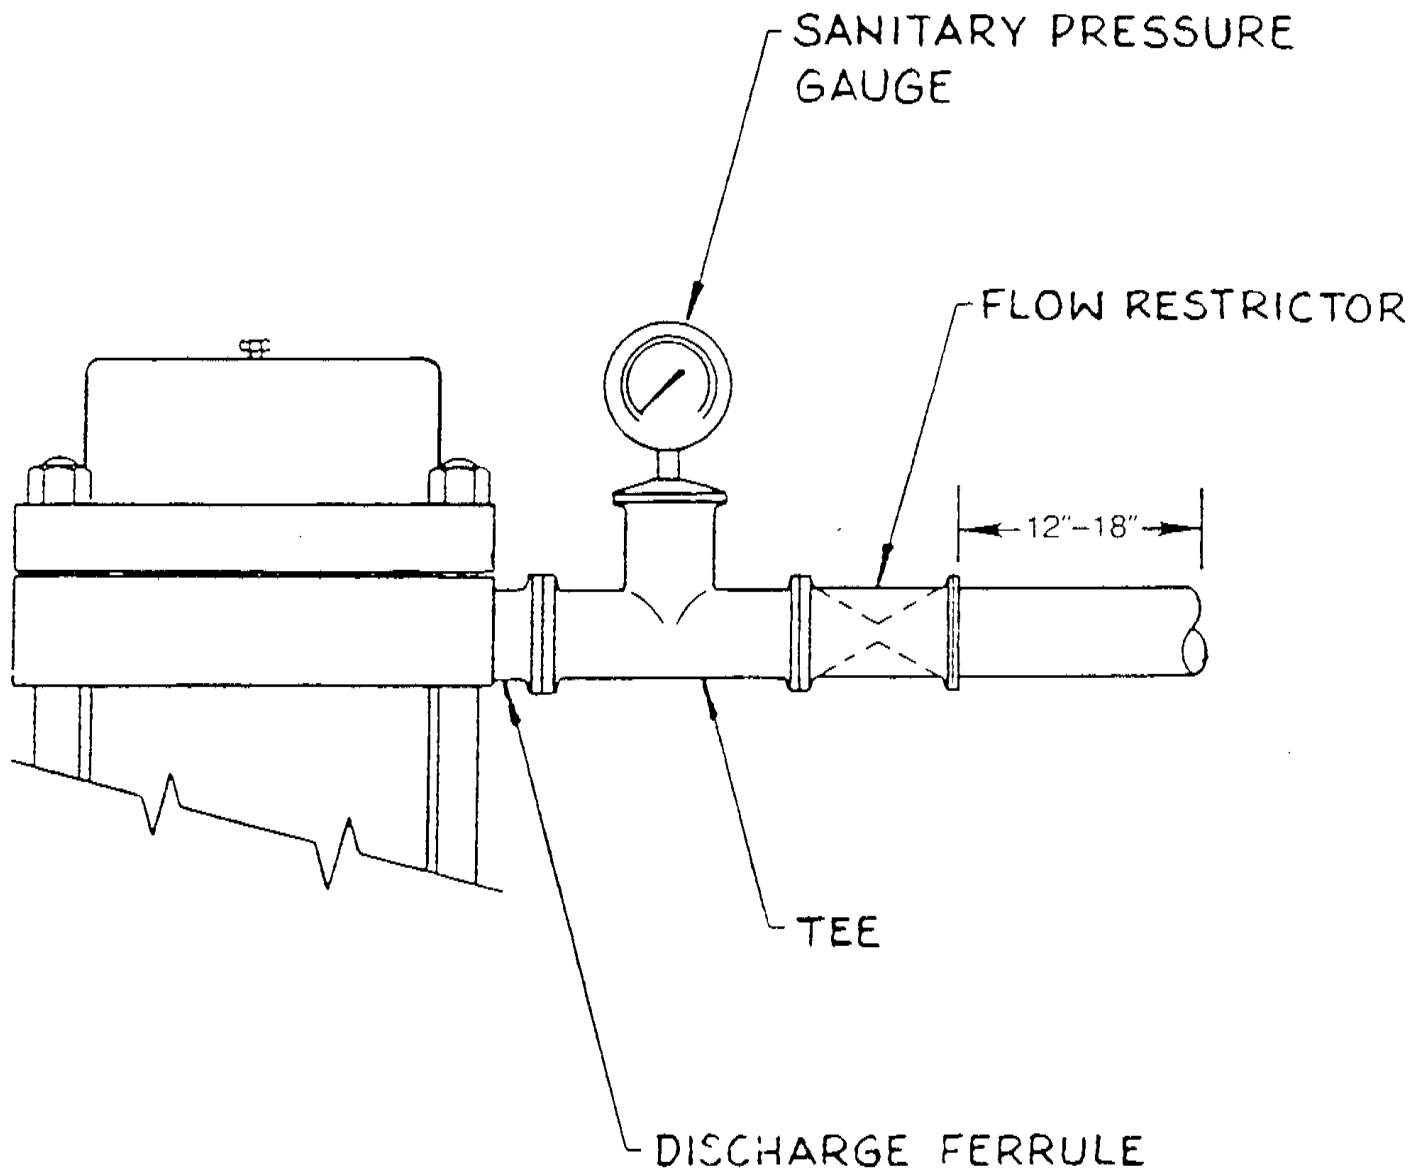

FIGURE 10
17. Vent all air from the HVA lines and actuator. Tighten the vent plug (27), reduce the HVA pressure to "0" and turn off the pump motor. The Micro-Gap valve assembly is now ready for connection to product piping.
18. Referring to Figure 10, install the tee, gauge and restrictor backpressure control, if supplied with your machine.
Figures 10, 11 and 12 illustrate several methods for achieving the desired amount of backpressure required to effectively operate the Micro-Gap homogenizing valve assembly.